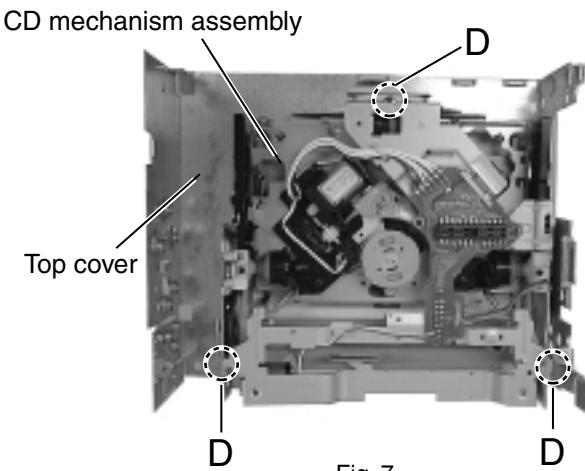

Fig. 7
■ Removing the CD mechanism assembly (See Fig.7)
- The CD mechanism assembly (Refer to Fig.7)